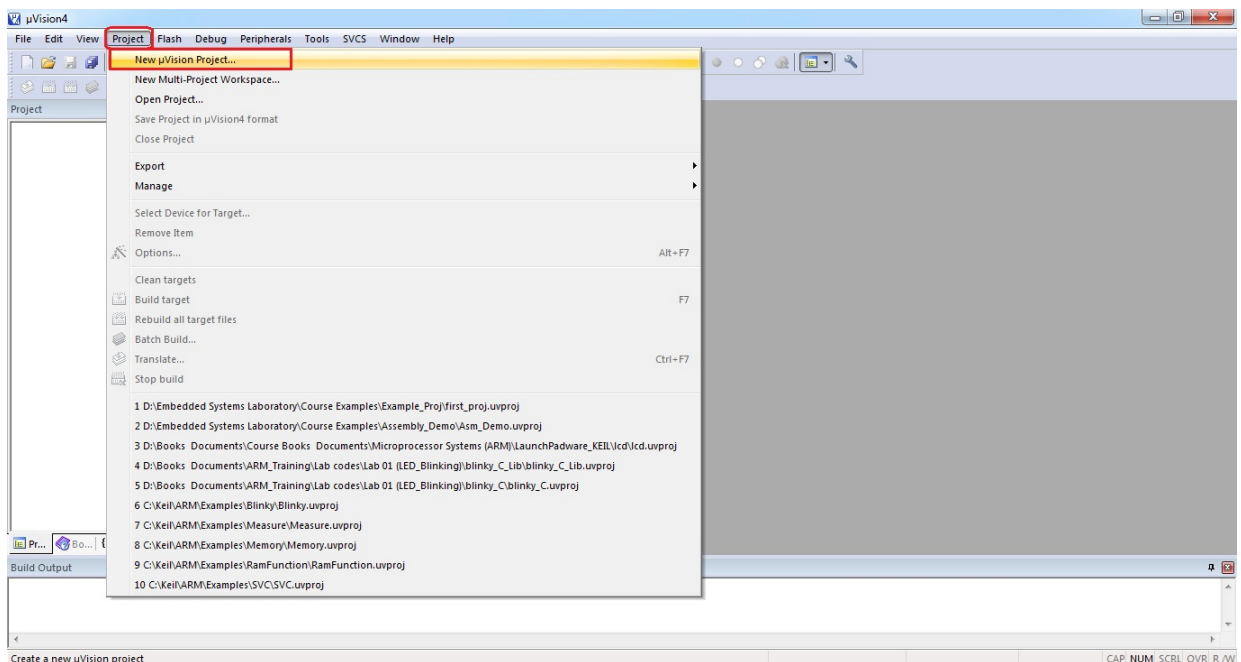

Figure 1.8: Create new μ Vision project
2. Click on *Project* tab and choose **New μ Vision Project** from the drop-down list as shown in Figure 1.8